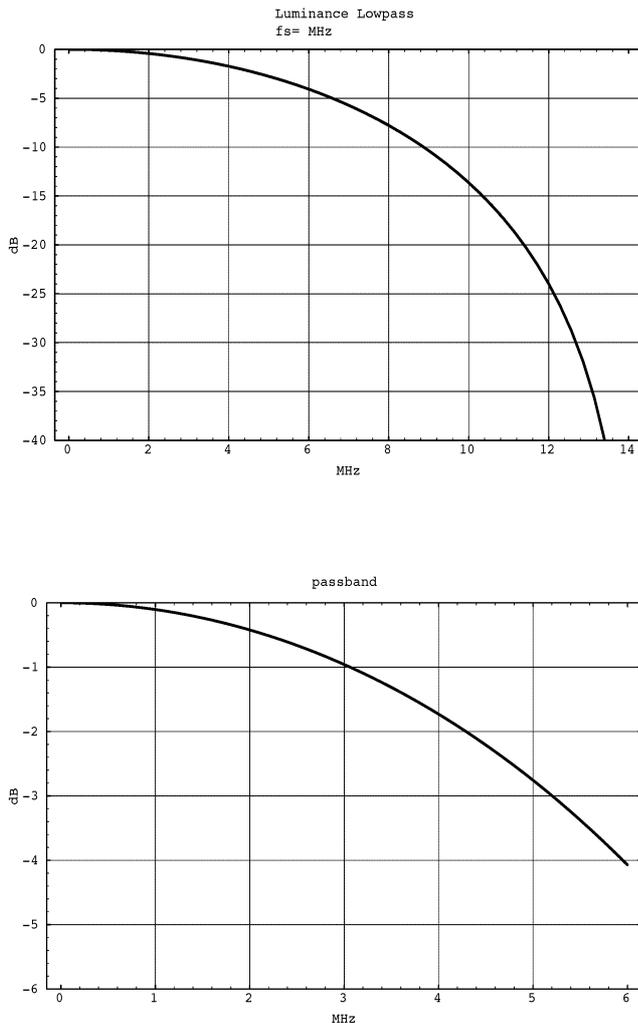
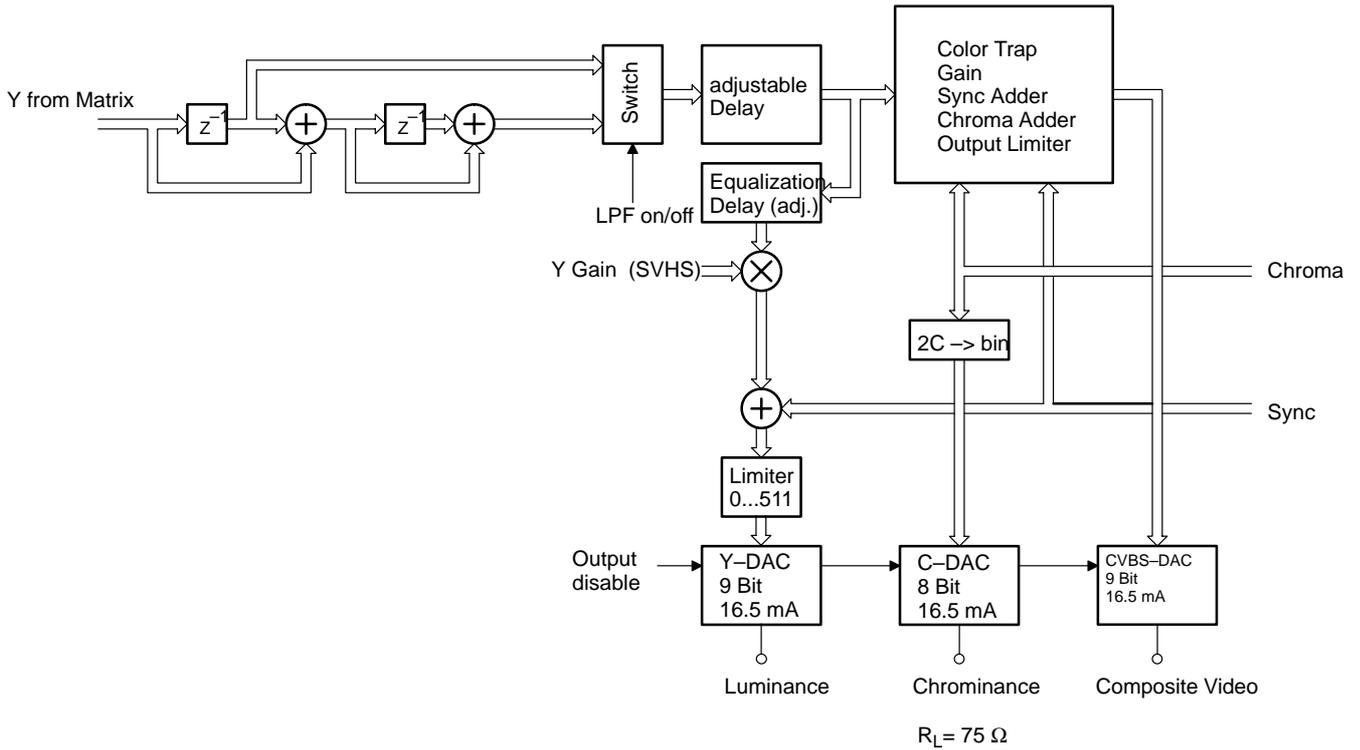

Fig. 2-7: Frequency Response of Luminance Lowpass Filter
Fig. 2-9: Luminance part and Y, C, CVBS D/A Converters
The bandwidth of the luminance path can be reduced by a switchable lowpass filter. The description of the transfer function can be found in the item 4.1.14 'Programming'. The frequency response is shown in figure 2-7. The position of this filter in the luminance path is shown in figure 2-9. The filter runs with the main clock frequency.